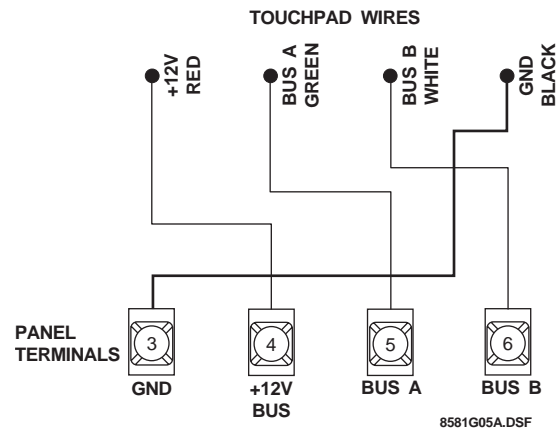

Figure 4. Wiring the Touchpad to Concord Panels
4. Connect the touchpad wiring to the panel terminals as shown in Figure 4